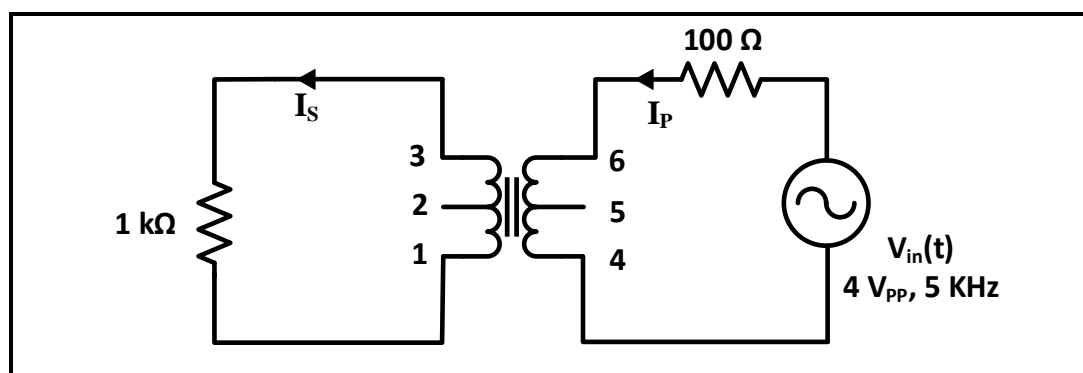

Figure 6.6
2. Connect the circuit of Figure 6.6, set $V_{in}(t)$ to sinusoidal voltage with $4 V_{PP}$ and $f = 5$ kHz